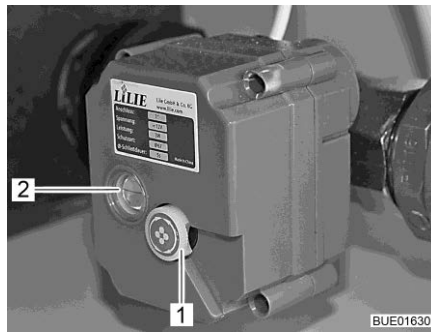

Fig. 198 Electrically operated drainage valve
A red line in the inspection window (Fig. 198,2) of the electrically operated drainage valve shows the valve setting:
- Pull out the rotary knob (Fig. 198,1) on the electrically operated drainage valve and rotate (in any direction).